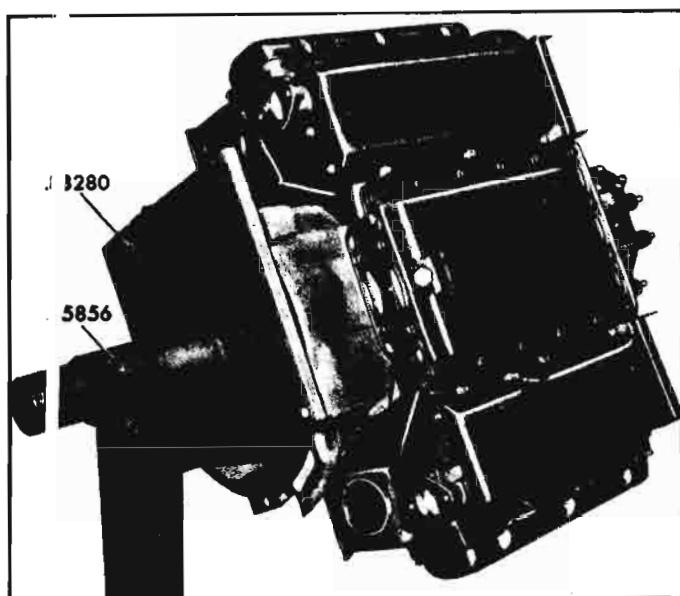

Fig. 6A-36—Engine, Engine Adapter and Stand Installation
15. Remove coil and generator brace from cylinder head. Remove engine upper shroud and left and right side shields (fig. 6A-11). Remove all spark plugs and gaskets.